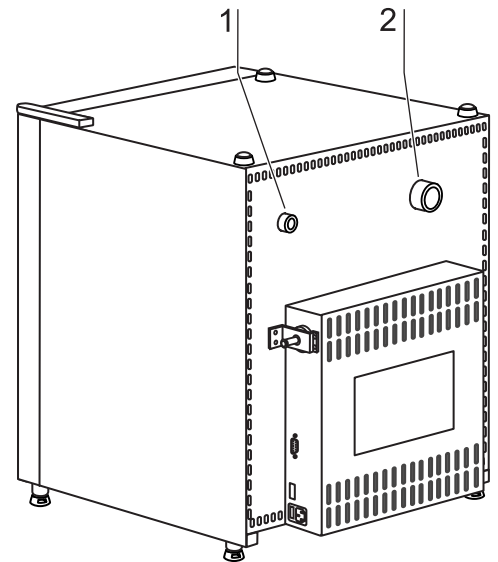

Fig. 10
**Fig. 10:** A sealable access port [1] allows cables, hoses or additional sensors to be routed into the work space of the device. A pressure compensation opening with insert [2] at the rear panel of the device allows a compensation between the pressures in the work space and in the operating room.